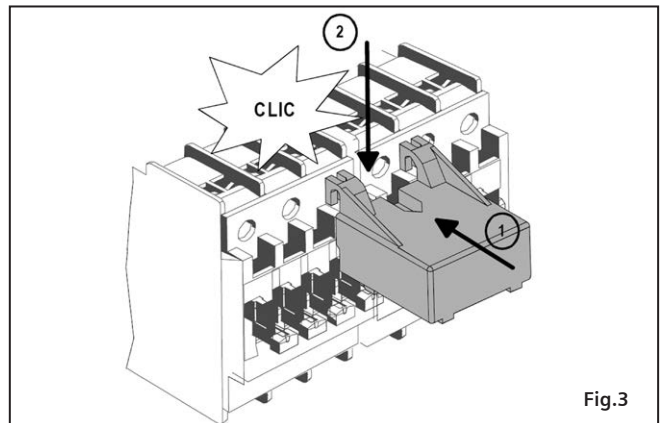

Fig.3
- Insert Mechanical Interlock from the Top side. (Fig. 3 step 1 & 2).